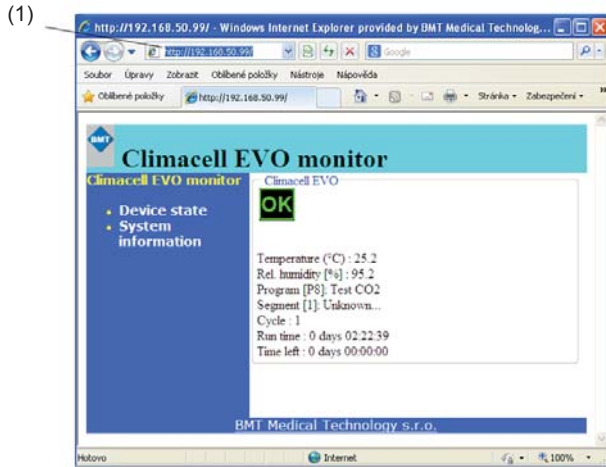

Fig. 36
4. The status of the device will be read on the web site, see Fig. 36.